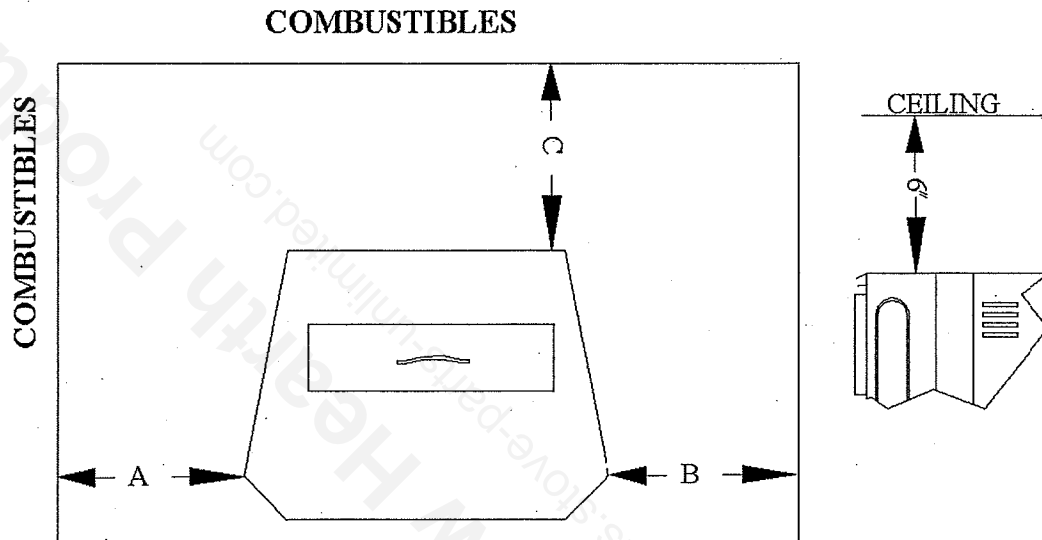

FIGURE 1: NPS-1000 FREESTANDING CLEARANCES
3. **MINIMUM CLEARANCES:** FIGURE 1 provides minimum clearances for the NPS-1000 installation based on use of double-wall flue pipe. Dimensions A, B, and C are all three inches for the NPS-1000